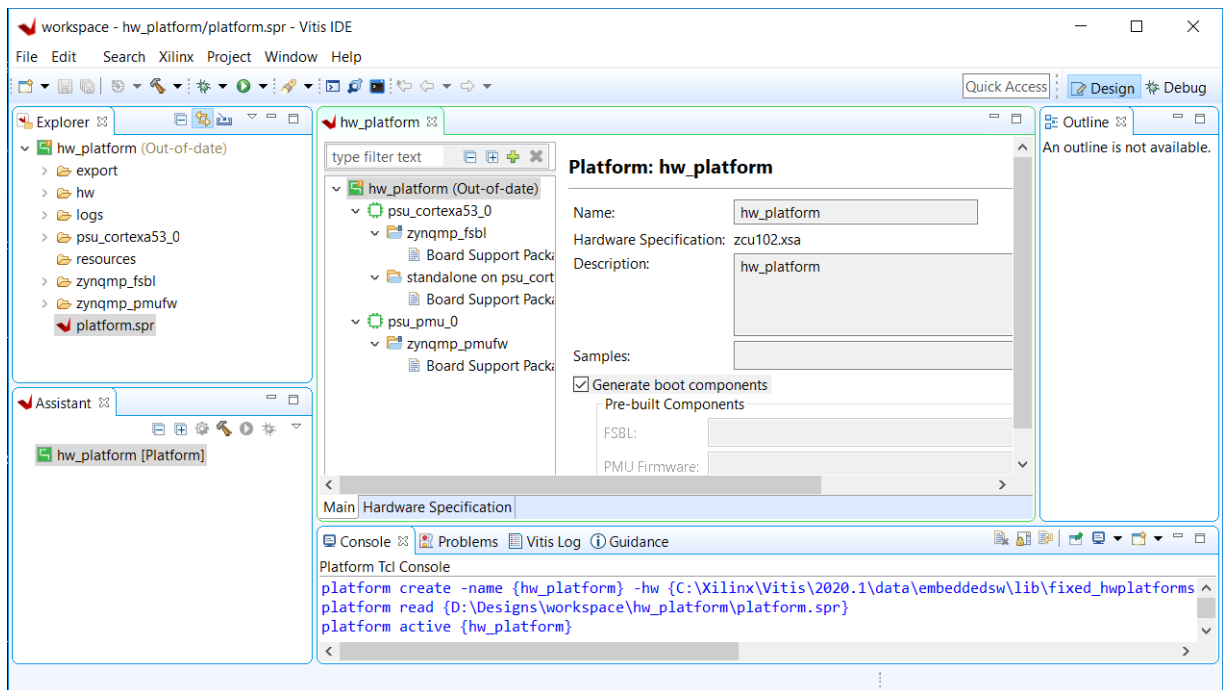

Figure 5: Platform View in Vitis
- Click **Finish** to create your platform project. The platform project editor opens as shown in Figure 5.